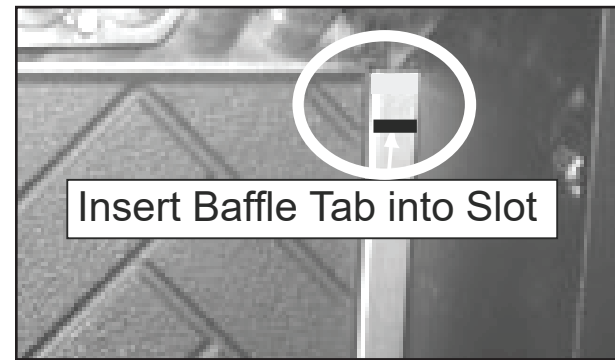

Figure 29.5
5. Insert baffle into top front of firebox and then raise up the bottom end and insert baffle tab into notch on the right bracket to lock into place (**Figure 29.5**). Place the left side hook of the bottom baffle over the top of brick for stability.